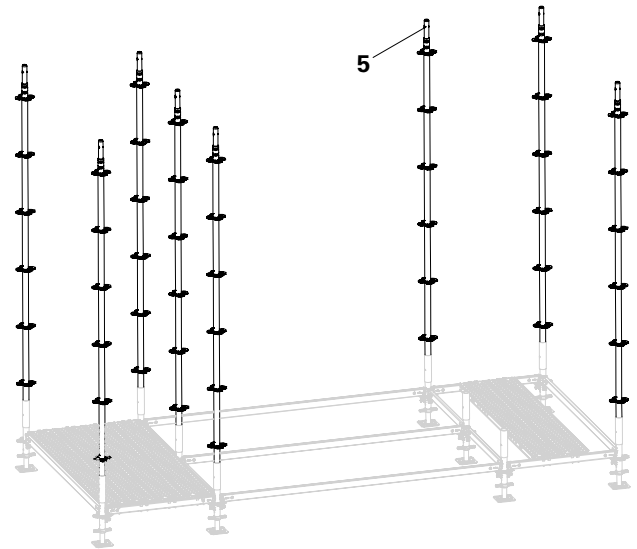

Fig. A1.13
1. Mount Standards UVR 300 (**5**) apart from two pieces. (Fig. A1.13)